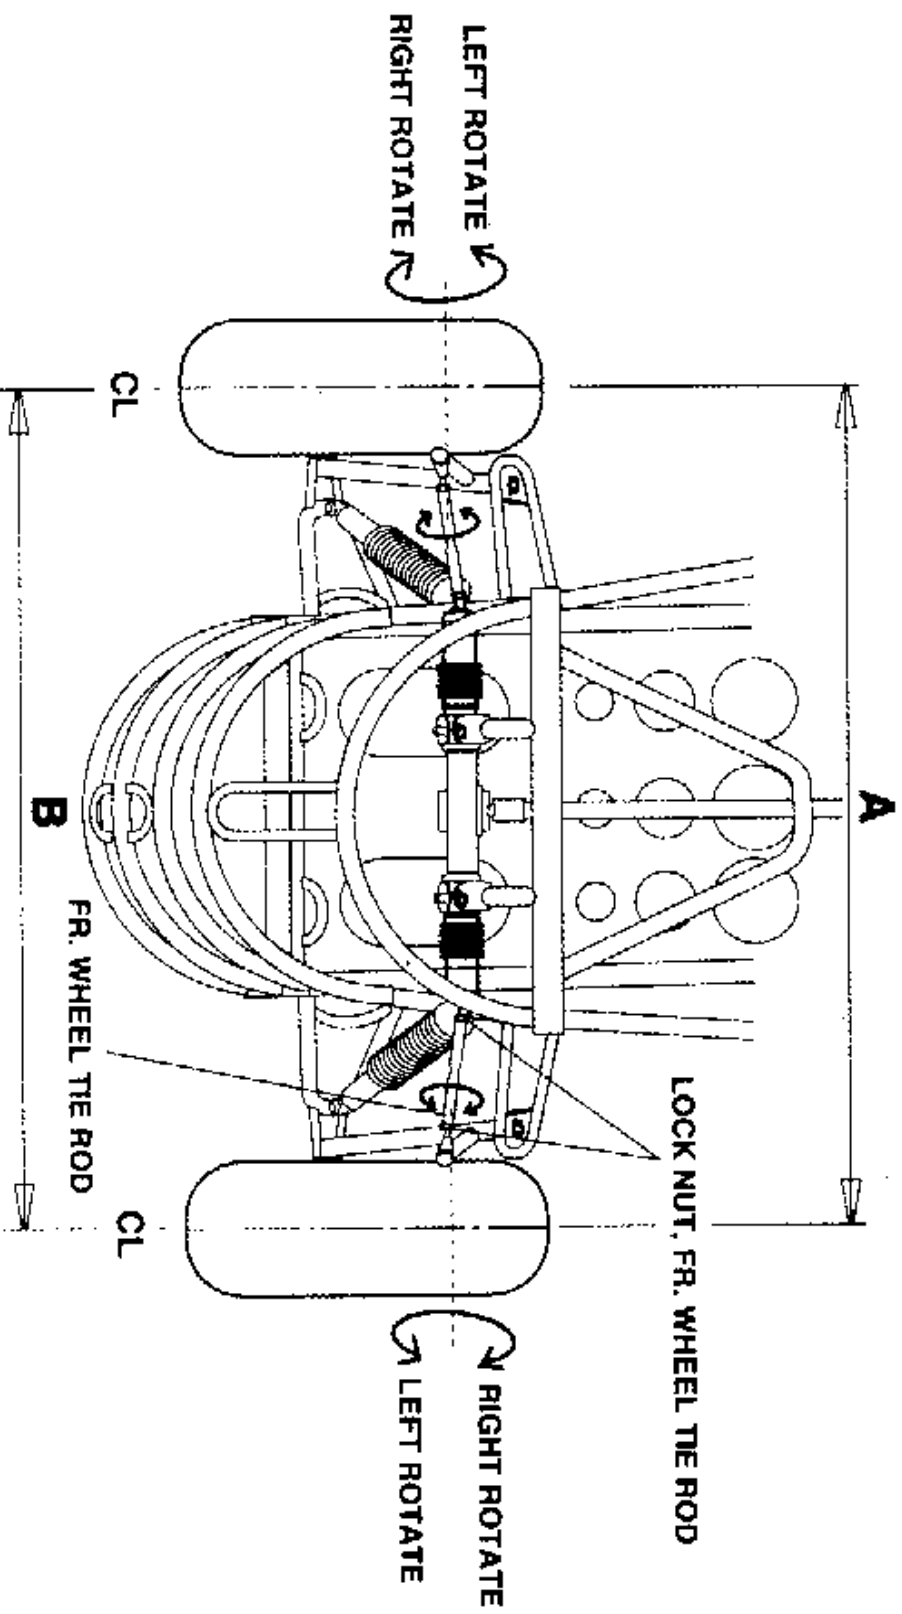

Figure 14
1. The front wheels should be "toed-in" from 1/8" to 1/4". To check alignment measure distance from A to B(Fig. 14) to the centerline(CL) of the tires with the wheels pointed straight ahead. For the proper toe-in dimension A should be 1/8"~1/4" greater than dimension B.